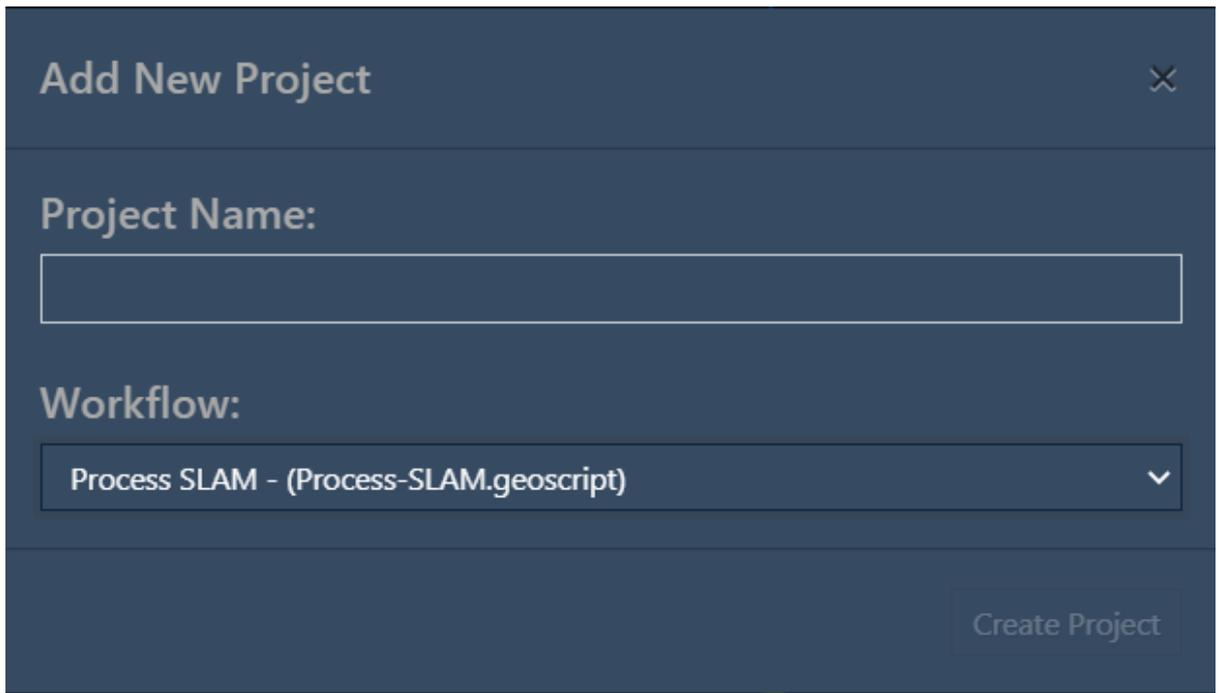

Figure 13 - Add New Project dialogue box
3. This will open the Add New Project dialog (Figure 13).